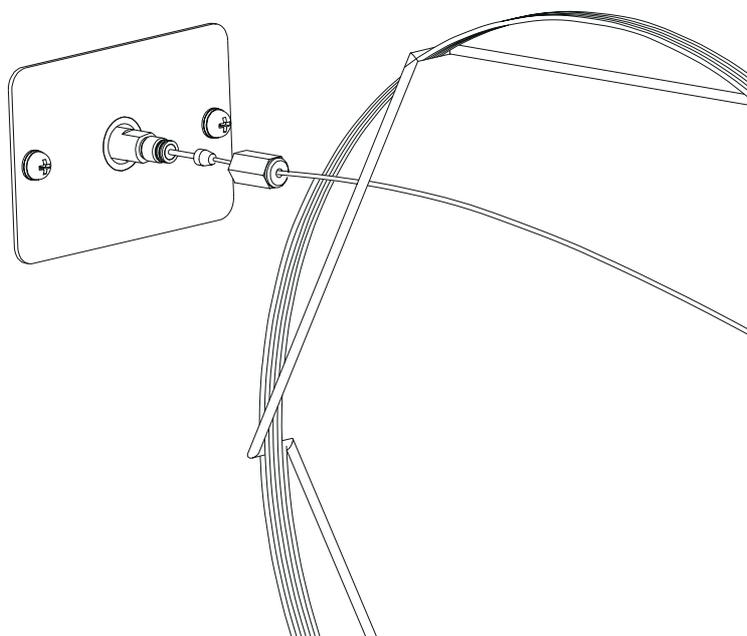

Figure 2.26 Connecting the Capillary Column to the MS
- (2) Insert the end of the capillary column into the column fitting jig (P/N 225-11657-08), so that the capillary column protrudes about 1 cm from the end of the jig as indicated in Figure 2.26 "Connecting the Capillary Column to the MS". Secure it by tightening the nut. Cut the protruding end of capillary column.